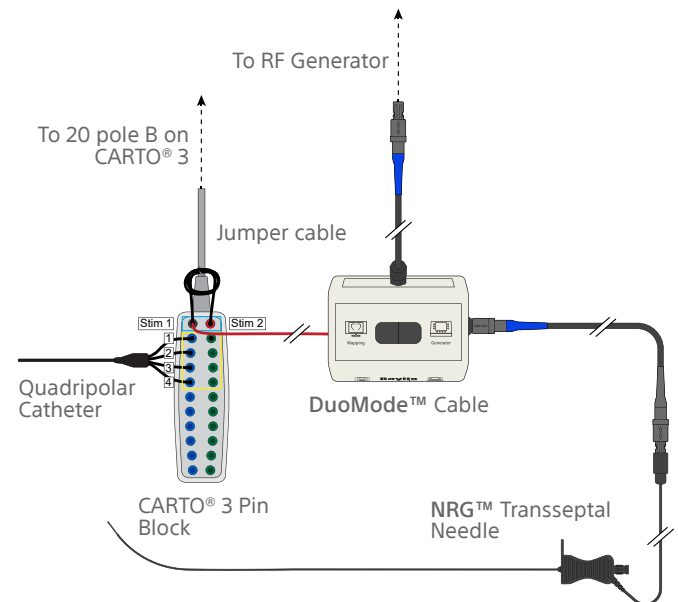

Figure 1. Graphical adaptation of the equipment setup used by Salam et al for device visualization on EAM.
- ▶ **NRG™** Transseptal Needle (Baylis Medical*) was visualized on the **CARTO® 3** System (Biosense Webster) using the **DuoMode™** Extension Cable† (Baylis Medical*) (Figure 1).